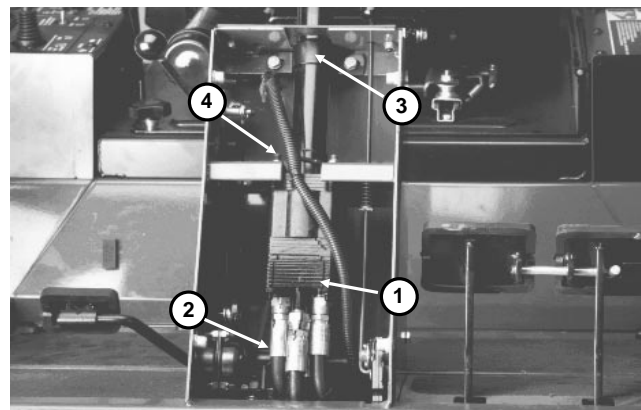

Figure 23
4. Clean outside of the steering valve and the area around the hydraulic fittings. Disconnect hydraulic hoses from steering valve (Fig. 23). Put caps or plugs on all fittings and hoses to prevent contamination.